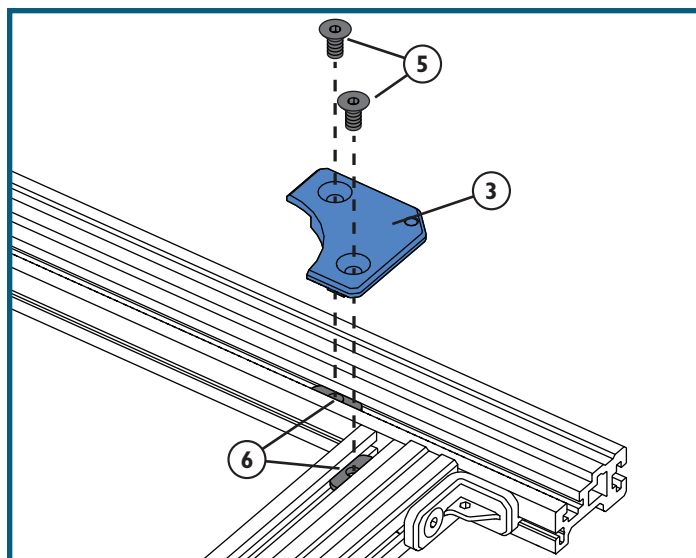

Fig. 2
1. Install a Standard Corner Guide (3, also marked with an "A") in each corner of the jig. To do this you first need to slide two Washer Nuts (6) into the top T-slot of each Rail (1). Slide the first Washer Nut almost as far forward as it will go; slide the second so it's at the intersection of the Rails. **Fig. 2.**
2. Fit the keys on the underside of the Standard Corner Guide (3) into the slots in the intersecting Rails (1) and adjust the positions of the Washer Nuts (6) to align them with the mounting holes in the guide. Insert two Flat-Head Screws (5) in the countersunk holes in the Corner Guide and thread them into the Washer Nuts. Use the included Hex Key (12) to tighten the screw that's on the same side as the screw in the Support Bracket (4); don't tighten the other now, or you won't be able to adjust the rail positions. **Fig. 2.** Install a Corner Guide in all four corners of the jig.